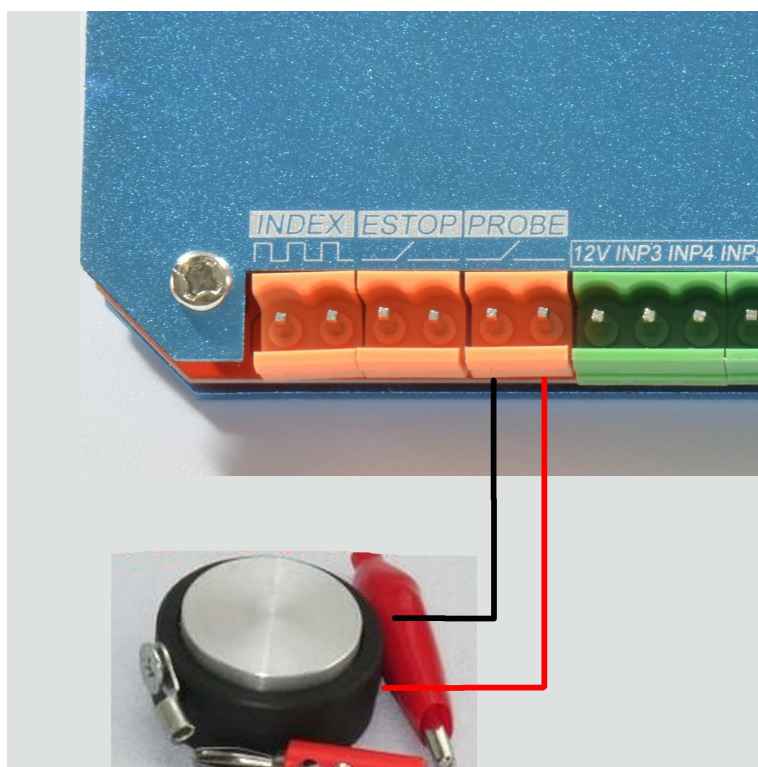
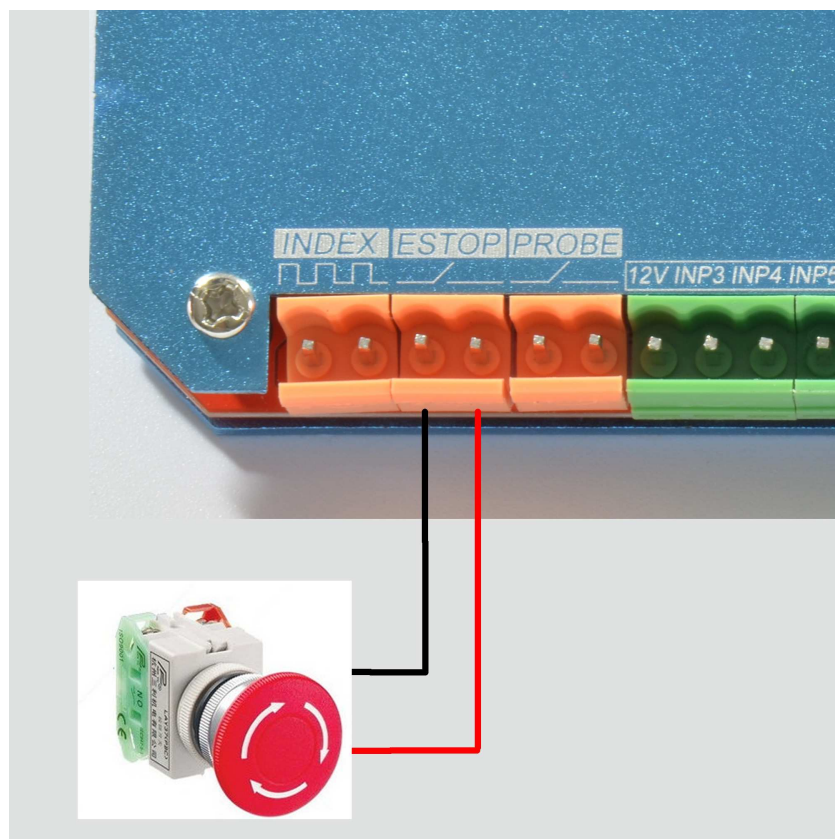
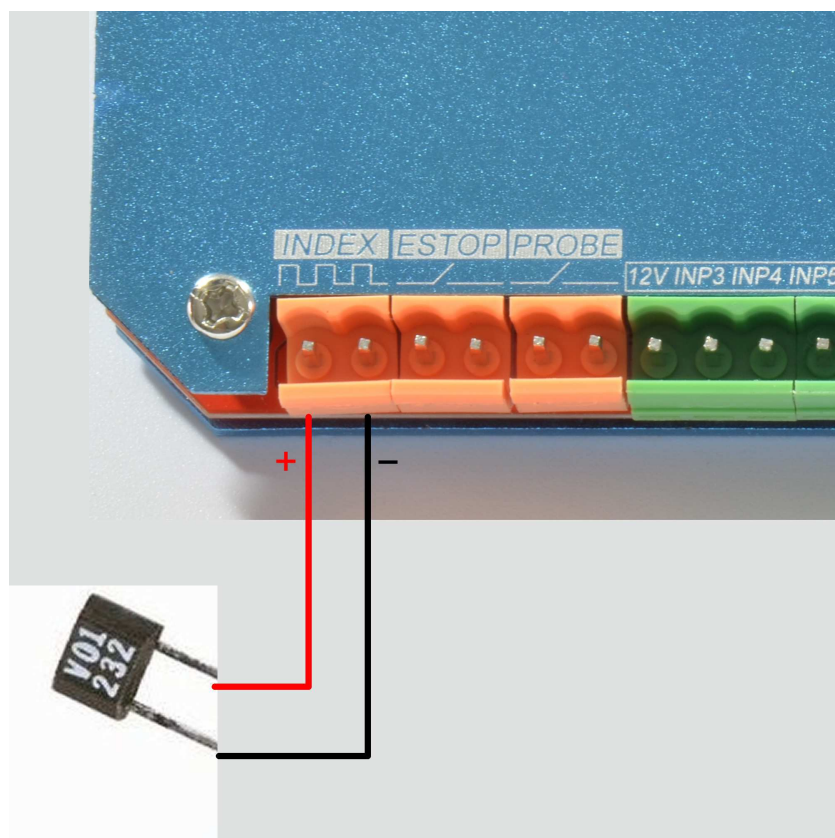

Figure2-10. Probe port connection method
Figure2-11. Estop port connection method
Figure2-12. Index port connection method
J) Probe/Estop/Spindle speed Index port. Probe port connection method see as Figure 2-10, Estop port connection method see as Figure 2-11, Index port connection method see as Figure 2-12. You should pay attention to positive and negative of the port Inex.